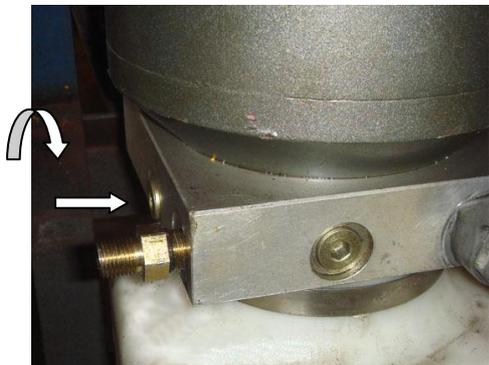
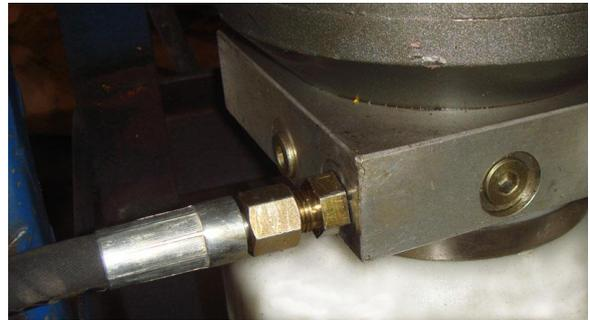

Fig. 7
Fig. 8
4. Screw the fitting to the motor pump outlet (Fig. 7). Connect the hose to the fitting. (Fig. 8)